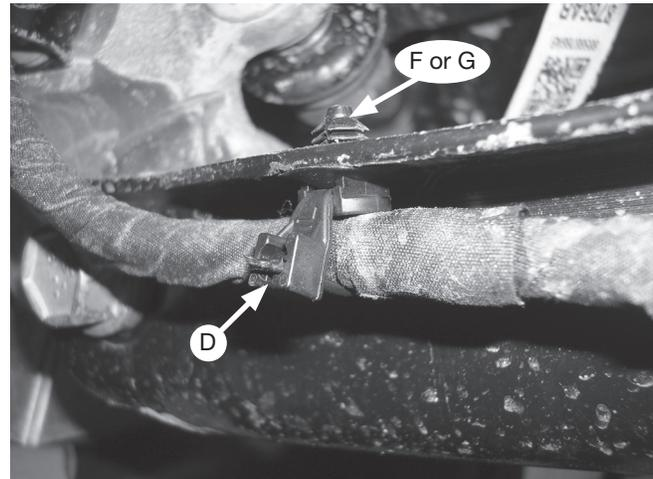

Fig. 30
- Reattach the EPB connector, large treemount and bracket back onto the caliper (removed in steps 4, 5 and 6). Tighten the stock hardware securely. If the small treemounts broke when removing them from the spring link (step 5), cut the old ones off the wiring harness and install the new treemounts (F & G) (fig. 30).